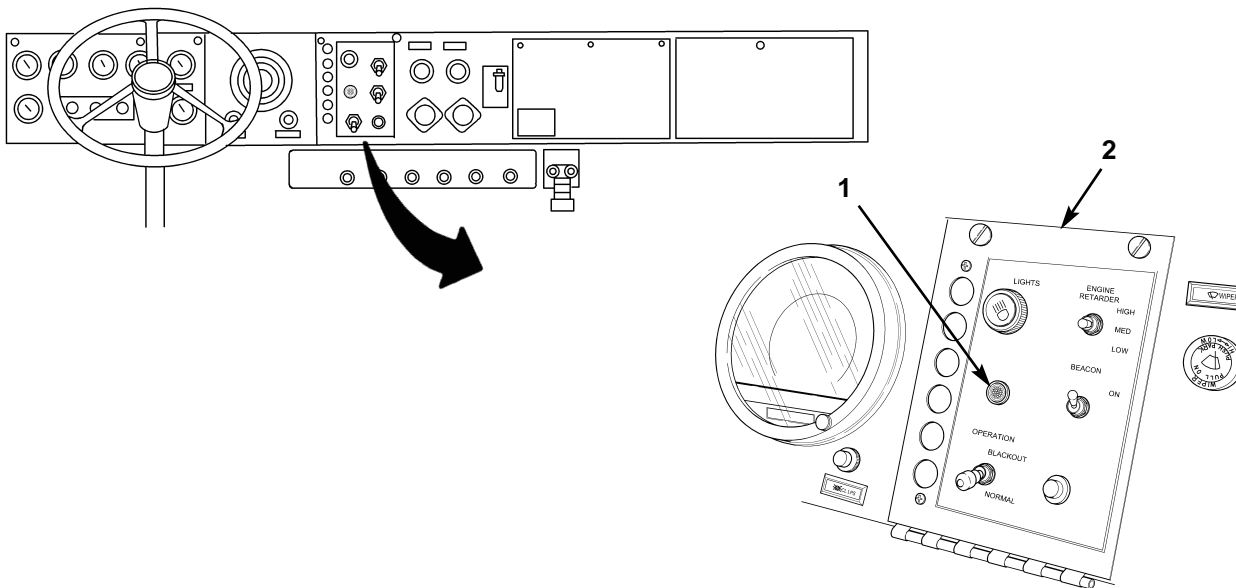

Figure 1. Observing ABS Warning Light.
1. Turn on ignition switch. Refer to TM 9-2320-283-10. Observe ABS warning light (figure 1, item 1) on center control panel (figure 1, item 2) illuminate for three seconds and then go off. At same time, listen for all four modulators to cycle twice; a clicking sound should be heard.